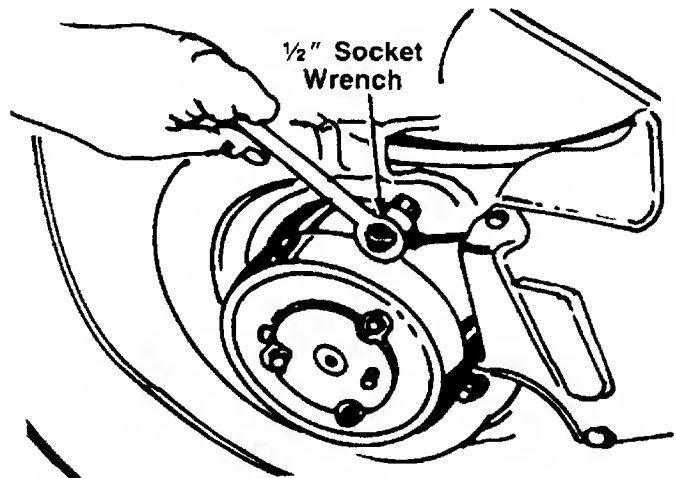

FIGURE 27.
11. Support the engine with one hand. Remove the three self-tapping screws which secure the deck and blade brake/clutch to the engine. A 1/2" socket wrench is required. See figure 27.